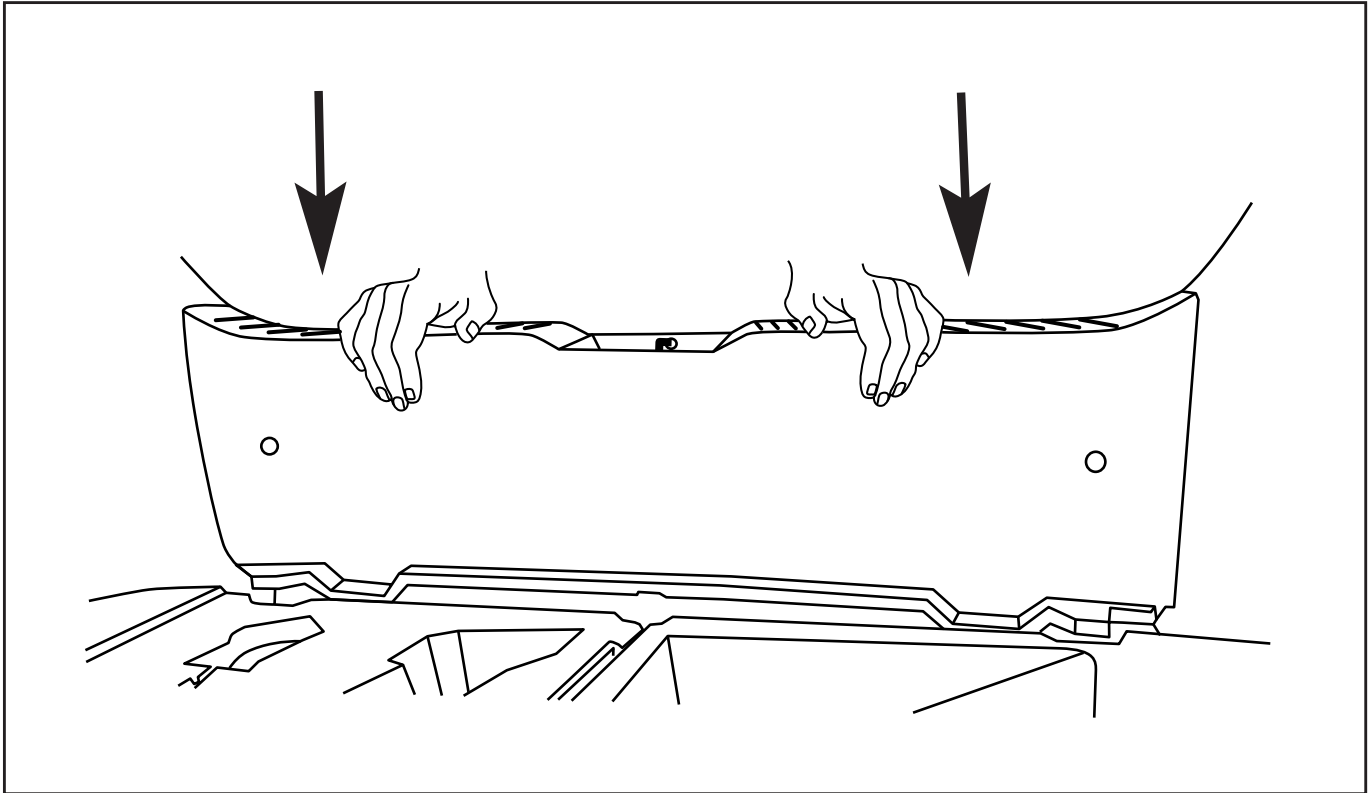

Fig. 8
9. Reinstall rear trunk trim cover (Fig. 8).